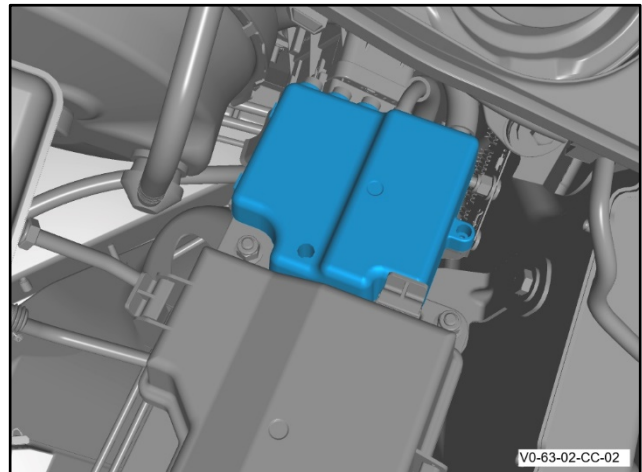

Figure 11
2. Install the cover for the fuse box (refer to Figure 11).